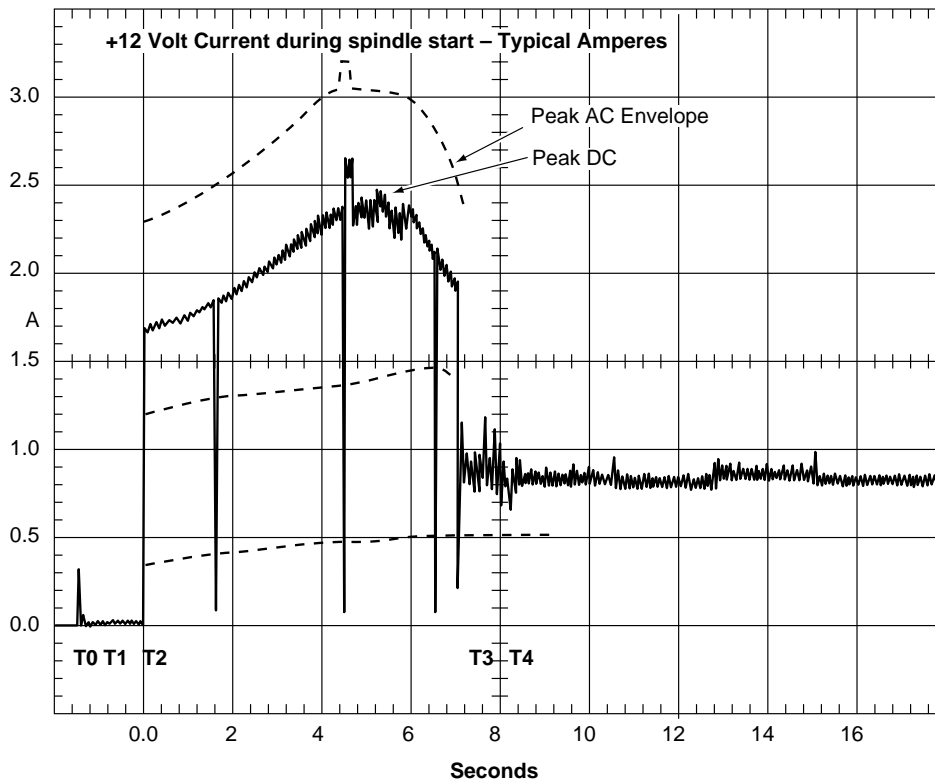

Figure 3. Typical Barracuda 50 family drive +12 V current profile
- [3] See +12 V current profile in Figure 3.
Figures 3 and 5 identify the drive +5 V and +12 V current profile. The current during the various times is as shown: